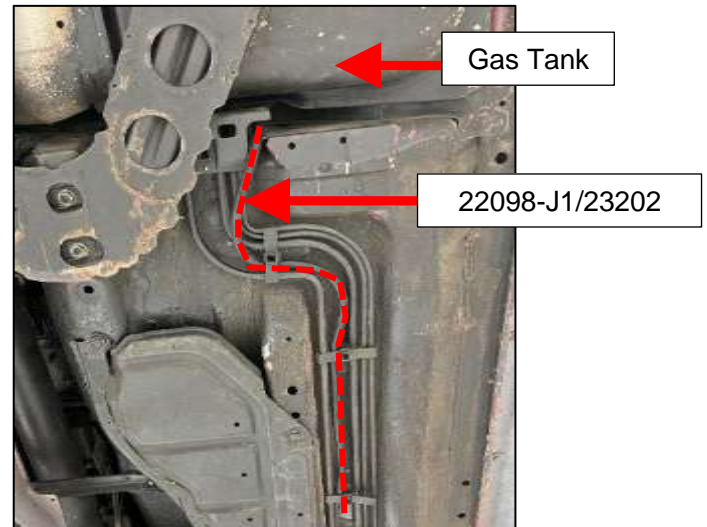

Figure 42
4. From the underside of the car, push the Pump Feed Line (**22098-J1/23202**) up between the chassis and the front of the Fuel Tank towards the Fuel Pump Top Hat. *Figure 42.*